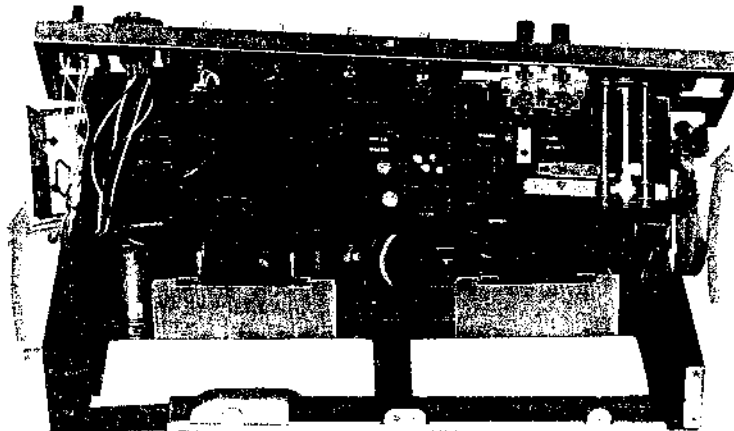

Fig. 2-18 Front subchassis removal
3. Carefully raise lower part of front subchassis in the direction shown by the arrows as shown in Fig. 2-18.